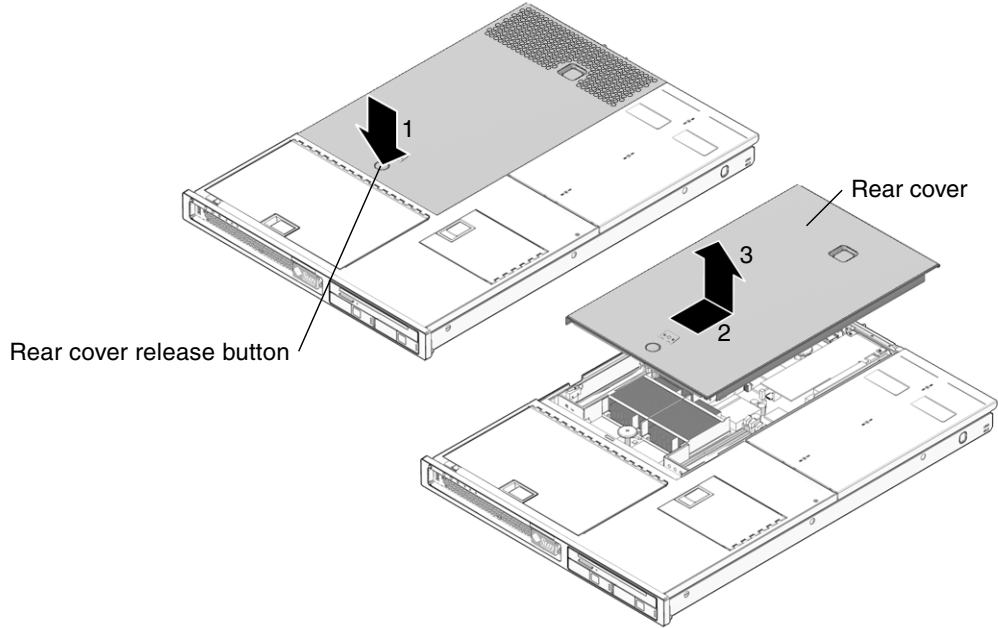

FIGURE 3-5 Removing the Rear Cover
1. **Press and hold the rear cover release button**(FIGURE 3-5).